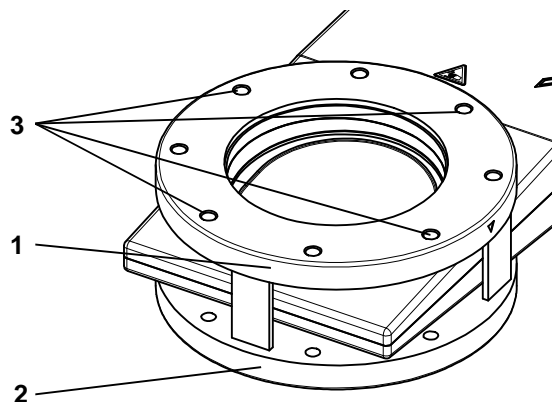

Figure 4-1
2. Clean sealing surfaces and seals of both flanges; see (1) and (2) according to «Figure 4-1».
4. Mount the four screws (3) according to «Figure 4-1», evenly in crosswise order until the seal touches the sealing surface.